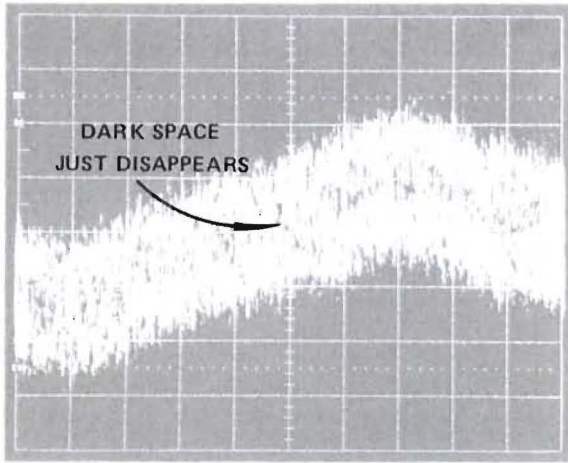

Figure 42 Offset Adjusted until Dark Area just Disappears
- 3. With both channels identically calibrated, adjust the voltage offset until the dark area between the two traces just disappears (Figure 42).